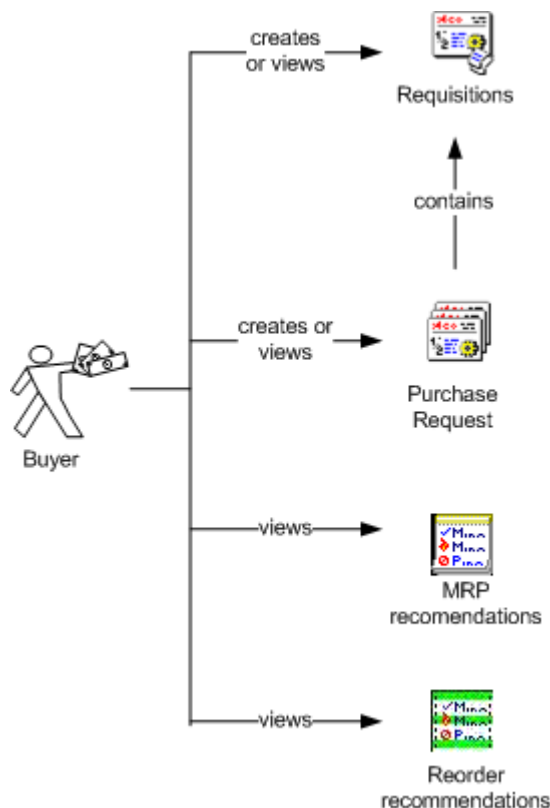

Figure 2-1. Overview of monitoring demand for materials
Figure 2-1, "Overview of monitoring demand for materials" shows four ways you can monitor your company's demand for materials. In Procurement Management (PM), you can create and view requisitions and purchase requests. If Order-Based Production Management (OBPM) and Material Requirements Planning (MRP) are installed and interfacing, you can view MRP recommendations and reorder recommendations from these applications.